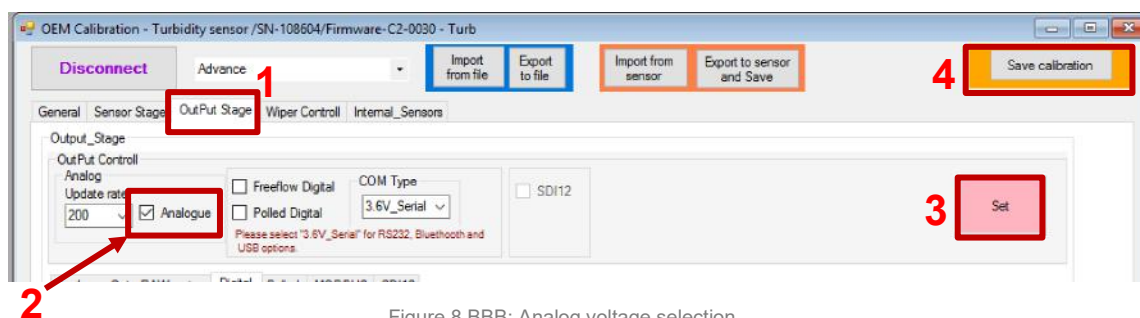

Figure 8.BBB: Analog voltage selection
- Select “OutPut Stage” option (Figure 8.BBB: #1).
- Select the “Analog voltage” option (Figure 8.BBB: #2).